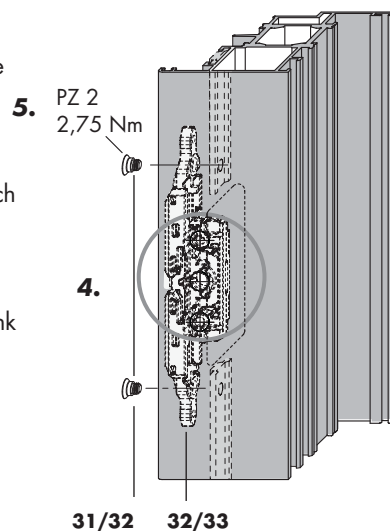

Fig. 3
4. Insert the ESG LM M6 (item **32/33**) into the profile machining 72 x 15 (Fig. 3).
5. Screw ESG LM M6 (item **32/33**) with coupling screw M6 (item **31/32**) into the operating rod punch hole Ø 5.2 (PZ 2, torque 2.75 Nm ± 0.25 Nm) (fig. 3).